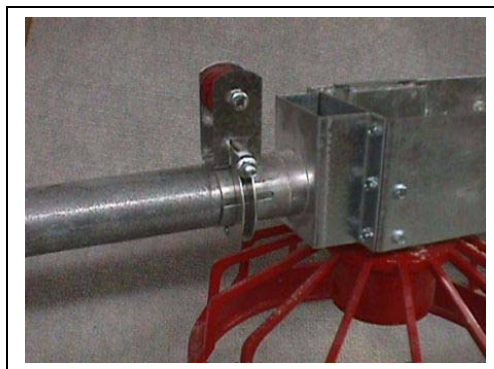

Figure 7BL
7. Wire the control pan to the drive unit motor. *(See Figure 7BM.)*